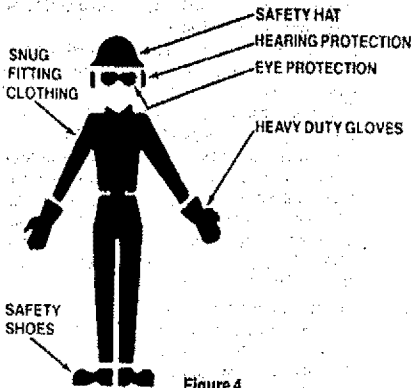

Figure 4
1. Wear personal protective gear. Figure 4. Always use steel-toed safety footwear with non-slip soles; snug-fitting clothing; heavy-duty non-slip gloves; eye protection such as non-fogging, vented goggles or face screen; an approved safety hard hat, and sound barriers—ear plugs or mufflers to protect your hearing. Regular users should have hearing checked regularly as chain saw noise can damage hearing.